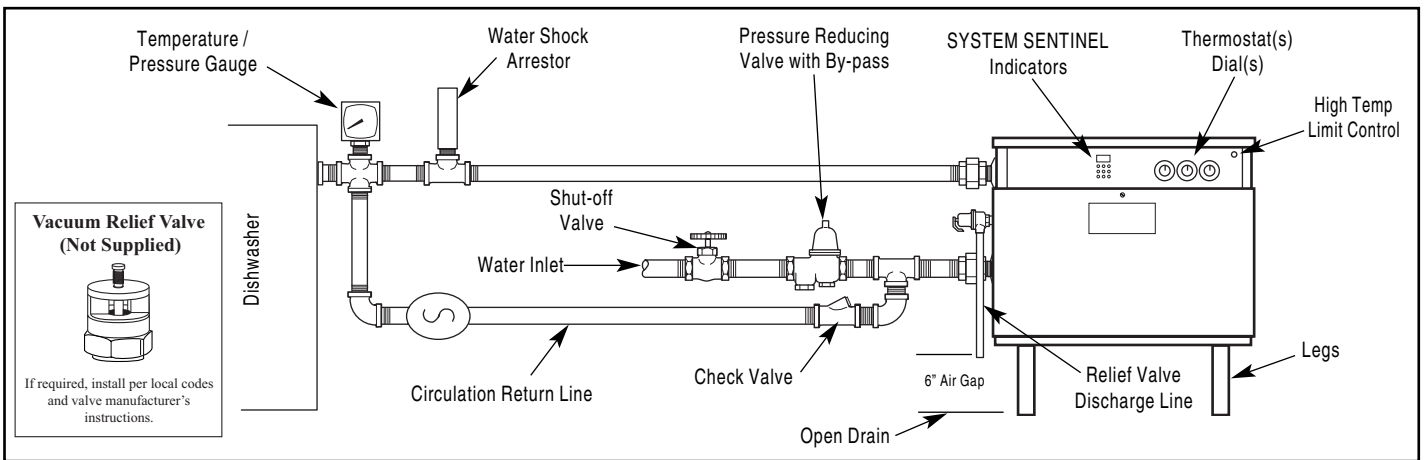

Figure 1. — Recommended installation for dishwashing sanitizing rinse application
- 1. **INSPECT SHIPMENT**—for possible damage. The manufacturer's responsibility ceases upon delivery of goods to the carrier in good condition. Any claims for damage, shortage in shipments, or non-delivery must be filed immediately against carrier by consignee. Refer to Fig. 1 for installation with commercial dishwasher to provide hot water for sanitizing rinse. Note: Adjust the pressure reducing valve to the dishwasher manufacturer's recommended pressure (usually between 15 and 25 psi), with water flowing to the dishwasher.